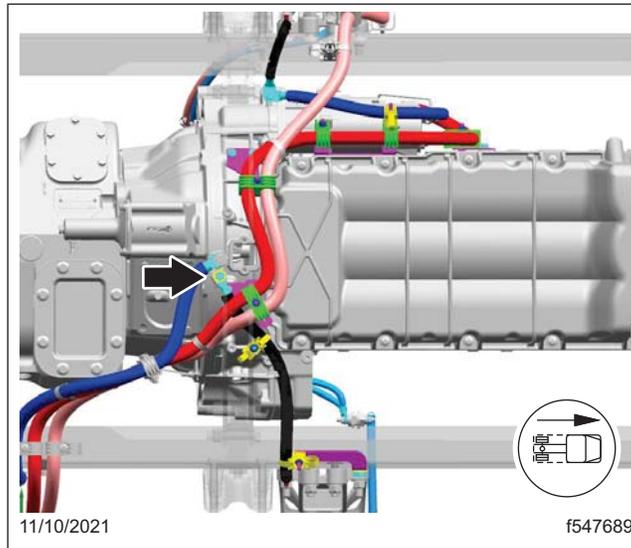

Fig. 11, Aluminum Battery Cable Bolt at the Flywheel Housing
9. Remove the negative aluminum battery cable bolt at the flywheel housing, then disconnect the negative aluminum battery cable. See **Fig. 11**.